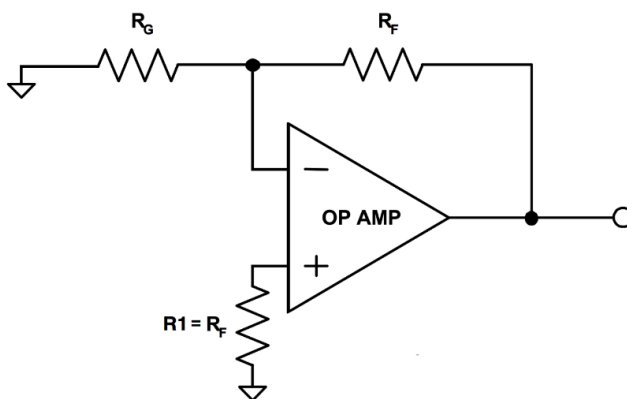

Figure 1. Circuit Configuration of Each Channel
Refer to Figure 1 for the circuit configuration of each channel; the resistor values are set as follows: (1) $R_F = 1M\Omega$ and $R_G = 1K\Omega$, for Channel A; and (2) $R_F = 10K\Omega$ and $R_G = 10\Omega$, for Channel B.